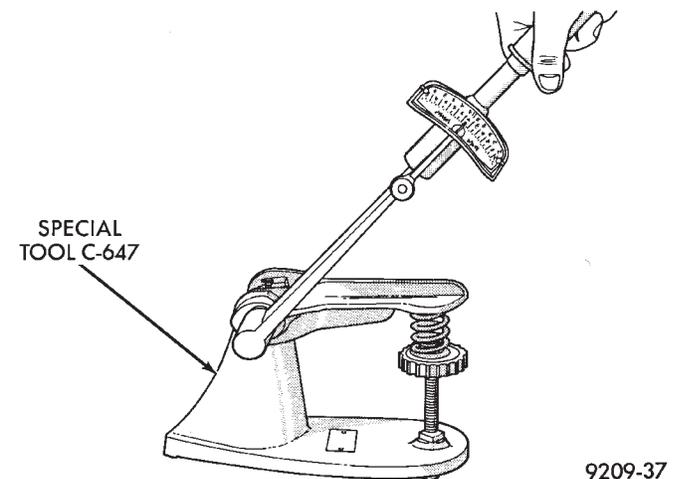

Fig. 20 Testing Valve Spring with Tool C-647
- (1) Whenever valves have been removed for inspection, reconditioning or replacement, valve springs should be tested. As an example, the compression length of the spring to be tested is 33.34mm (1-5/16 inches). Turn table of Tool C-647 until surface is in line with the 33.34mm (1-5/16 inch) mark on the threaded stud and the zero mark on the front. Place spring over stud on the table and lift compressing lever to set tone device (Fig.20). Pull on torque wrench until ping is heard. Take reading on torque wrench at this instant. Multiply this reading by two. This will give the spring load at test length. Fractional measurements are indicated on the table for finer adjustments. Refer to specifications to obtain specified height and allowable tensions. Discard the springs that do not meet specifications.
- (2) Inspect each valve spring for squareness with a steel square and surface plate, test springs from both ends. If the spring is more than 1.5mm (1/16 inch) out of square, install a new spring.